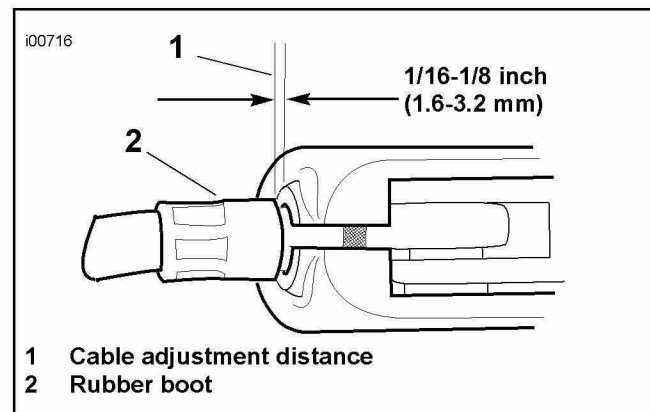

Figure 2. Clutch Cable Adjustment
- e. See Figure 2. Turn cable adjuster away from jam nut until slack is eliminated at hand lever. Pull clutch cable ferrule away from clutch lever bracket to check free play. Turn cable adjuster as necessary to obtain 1/16 to 1/8 inch (1.6-3.2 mm) free play between end of cable ferrule and clutch lever bracket as shown in Figure 2.